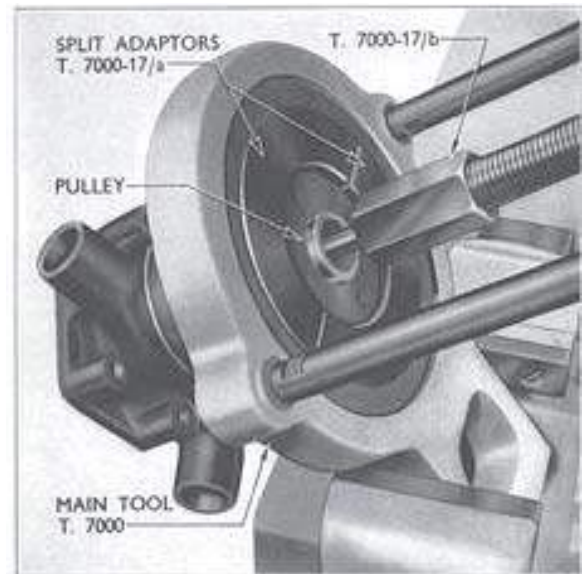

Fig. 37
1. Remove the pump pulley from the shaft using the split adaptors (T.7000-17a) as shown on Fig. 37. Screw adaptor (T.7000-17b) onto the centre screw of the main tool, so that it pushes against the centre of the pump shaft.